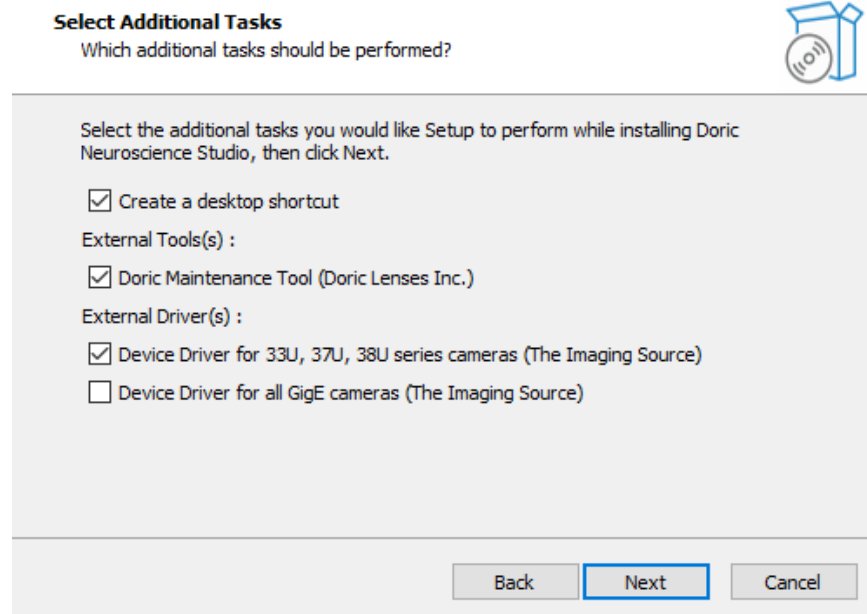

Figure 2.2: Select complementary installations
- Select **Create a desktop shortcut** if you want a shortcut to launch the software on your desktop (Fig. 2.2).
- Select **Doric Maintenance Tool** to install the Doric service system to update device firmware, more update information will be provided further in this user manual. We highly recommend making this installation and keeping the devices and software up to date (Fig. 2.2).
- Select **Device Driver for 33U, 37U, 38U series cameras** to installed the drivers for USB cameras. This is necessary mainly for **Behavior Camera** and **BPF systems** (Fig. 2.2).
- Select Device Driver for all GigE cameras to install the drivers for Ethernet cameras (Fig. 2.2).